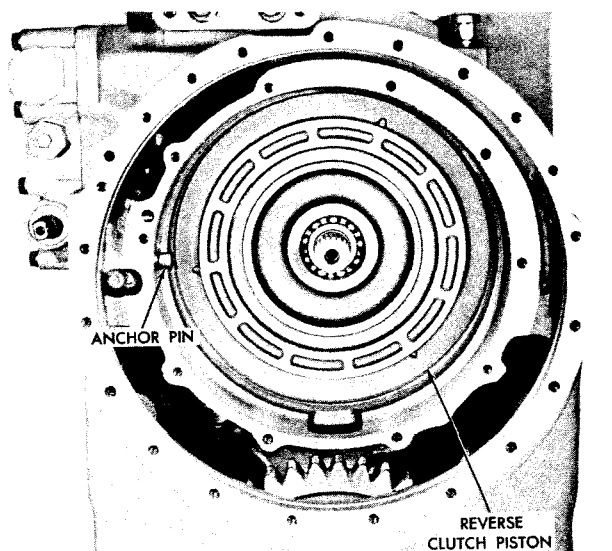
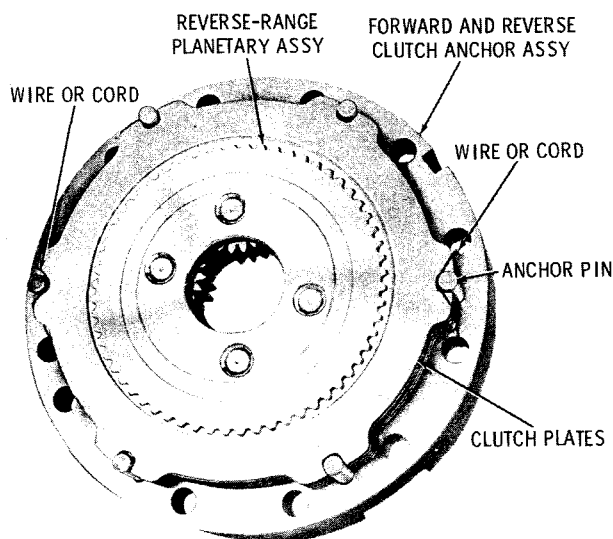

Fig. 7-44. Reverse piston and clutch anchor pin installed
Fig. 7-45. Reverse clutch and planetary assembled for installation into transmission in vehicle
(1) Install the reverse clutch piston, with expanders and sealrings, flat side first, into the rear of the transmission (fig. 7-44).
(2) Install the anchor pin into the anchor pin hole at the inside of transmission housing (fig. 7-44).
(3) Position the forward and reverse clutch anchor assembly 18 (B, foldout 8), the longer ends of the pins (front) upward. Install one internal-splined clutch plate 17, and then one external-tanged clutch plate 16.
(4) Install the reverse planetary carrier assembly 8, open (rear) side first, onto the two clutch plates. Install the remaining four internal-splined and four external-tanged plates 5 and 6 alternately, beginning with plate 6.
(5) The assembly outlined in (3) and (4), above, results in the clutch and planetary unit shown in figure 7-45.
(6) Using two wires or cords, tie the clutch plates to the clutch anchor assembly by passing the wires or cords over opposite tangs of the clutch plates, around the inner sides of pins, and through the adjacent holes in the anchor. Twist the wire ends or tie the cord ends at the under (rear) side of the clutch anchor (fig. 7-45).
(7) Install the entire unit, clutch plates first, into the rear of the transmission, engaging the anchor pin slot with the anchor pin in the transmission.
(8) Install forward and reverse sun gear spacer 7 (B, foldout 8) over the splined shaft at the center of the installed clutch and planetary unit.
b. Installation of Clutch and Planetary Components into Other Models. Figures 7-44 and 7-45 and a, above, cover procedures specifically for TRT 2221-1 and 2421-1 transmissions. For all other TRT models, follow the same procedures, although the appearance may differ slightly.